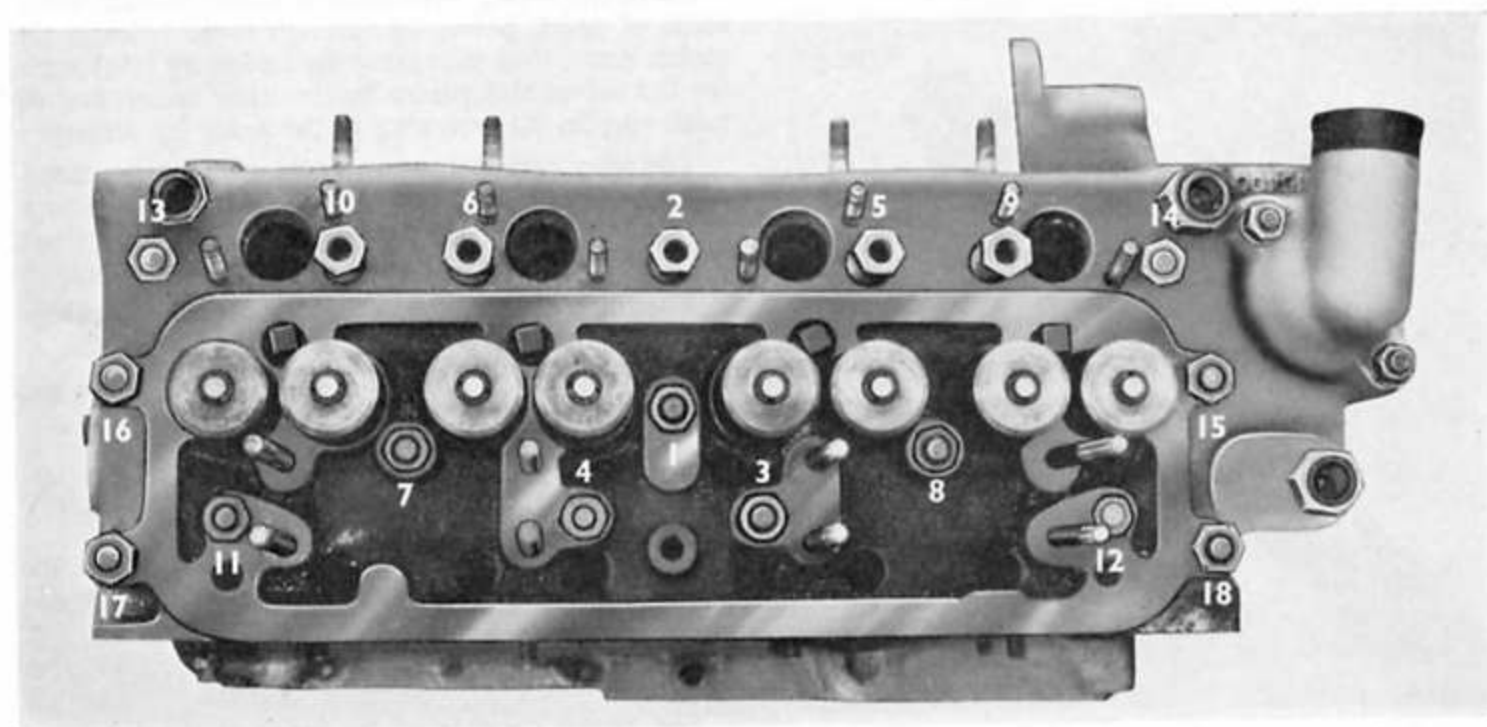

Fig. 56
27. Fit the cylinder head nuts, lubricated with engine oil, and tighten to a torque of 5.26 to 5.81 kg.m. (38 to 42 lb. ft.) on the 4/99, and in three stages to a final torque of 8.3 kg.m. (60 lb. ft.) on the 4/108. See Fig. 56 for the correct tightening sequence.
10. Fit the cylinder head nuts, lubricated with engine oil, and tighten to a torque of 5.26 to 5.81 kg.m. (38 to 42 lb. ft.) on the 4/99, and in three stages to a final torque of 8.3 kg.m. (60 lb. ft.) on the 4/108. See Fig 56 for the correct tightening sequence.